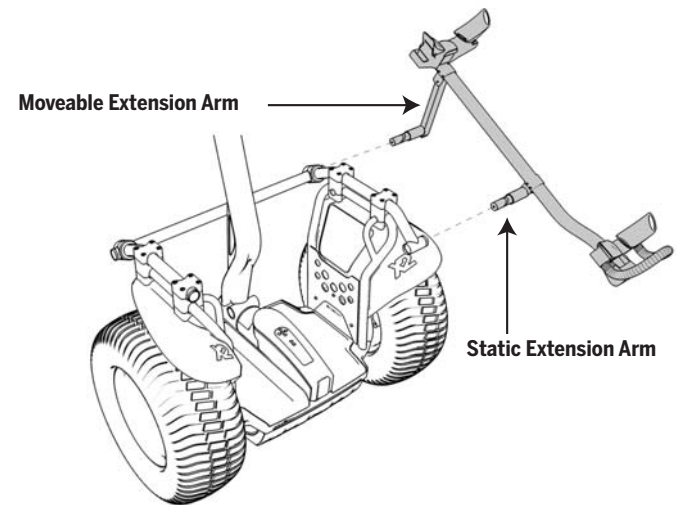

**Figure 2a.** Installing Front Support Bar
3. Install the Front Support Bar onto the Side Support Bars using the Front Support Bar End Caps. See Figure 2b. Attach (2) Front Support Bushings on the Front Support Bar to align with the End Caps. See Figure 2a. Loosely thread (2) 35mm fasteners into each end cap. See Figures 2a and 2b. Ensure that the Front Support Bar has equal overlap at either end of the end cap. Using a 5mm hex wrench, tighten the 35mm fasteners to 8 N-m (5.9 ft-lbf) to secure the Front Support Bar in place.